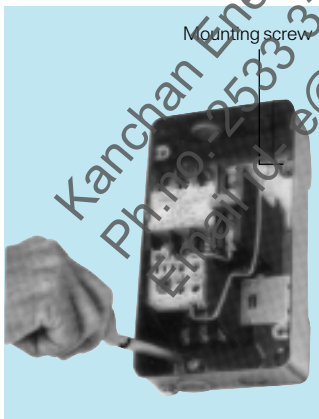

Fig. 1 Fixing of starter on surface
- Fix the starter housing vertically on a rigid surface free from vibrations using 2 screws supplied loose. (fig.1)